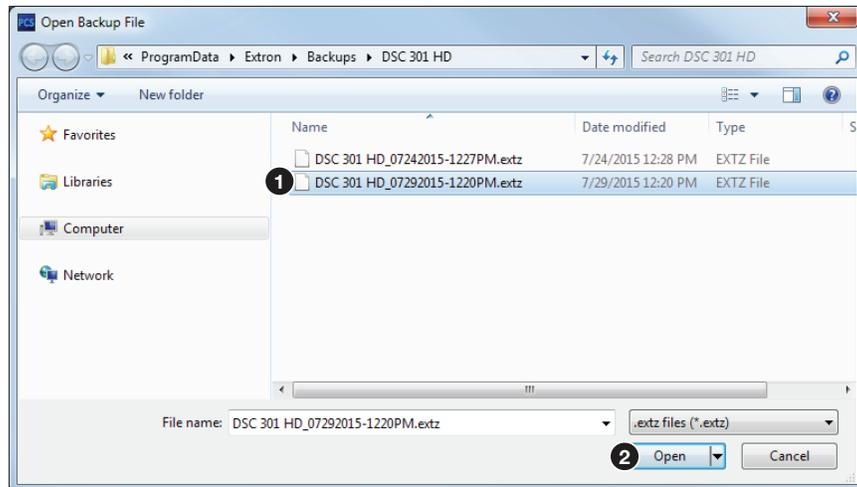

Figure 27. Open Backup File Window
3. Click the **Open Backup File** button on the **Restore This Device** dialog box. An **Open Backup File** window opens (see figure 27).
4. In the **Open Backup File** window (see figure 27), browse to where the saved backup configuration is stored.
5. Select the applicable configuration file (with a .extz extension, ①) and click **Open** (②).